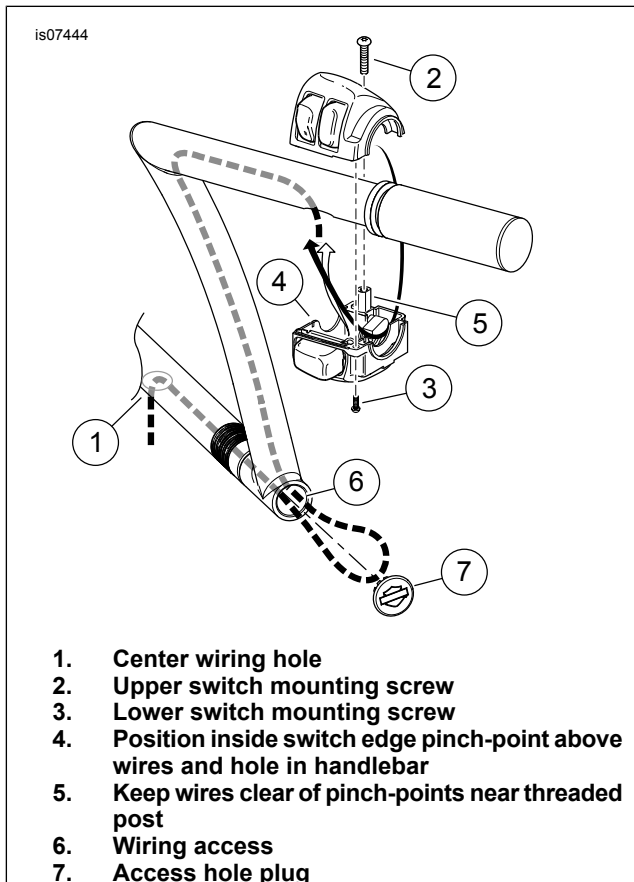

Figure 3. Switch Housing Wire Routing
- See Figure 3. With the handlebar placed on a smooth, soft surface, grip ends upward, gently feed the right side switch wire bundle into the opening on the underside of the new handlebar and toward the large opening in the center of the bar.